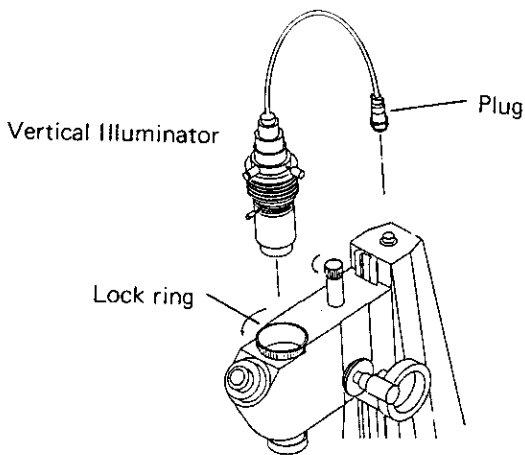

Fig. 5
- Plug in and insert the vertical illuminator into the microscope body, and clamp with the knurled Lock ring (Fig. 5)